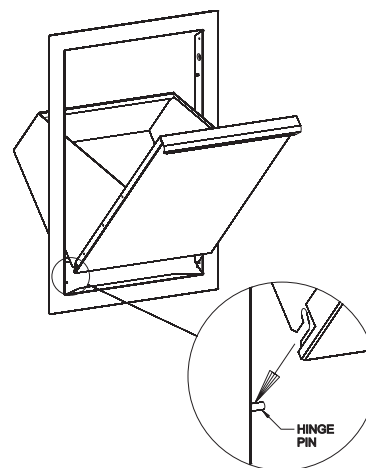

Figure 4
5. Lower the BBA Door Assembly onto the two hinge pins inside the lower left and right sides of the BBA Frame. See Figure 4.